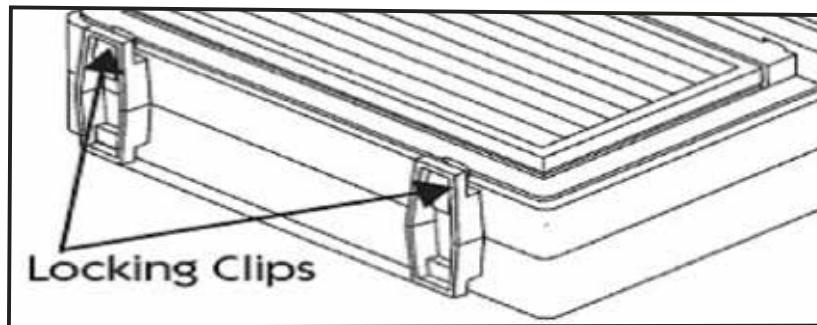

Figure 8
2. Lay the unit on its back to access the metal clips, located between the front grill and bottom feet. (figure 8)